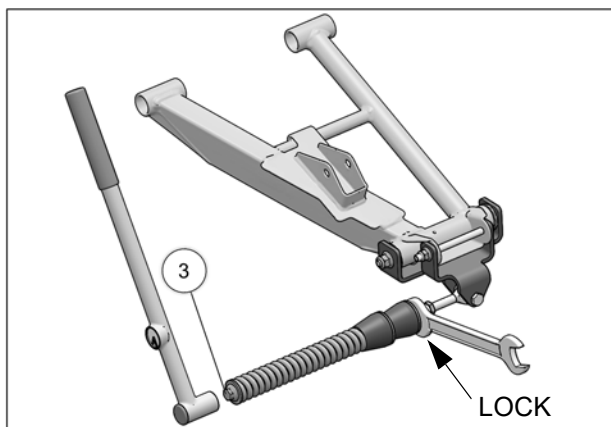

Fig. 10
10. Verify that spring assembly bolt (3) is tightened to the recommended torque specification: 75 N•m [55 lb•ft]. Make sure to lock in position, the large nut in front of the rubber cone dampers. Refer to Fig. 10